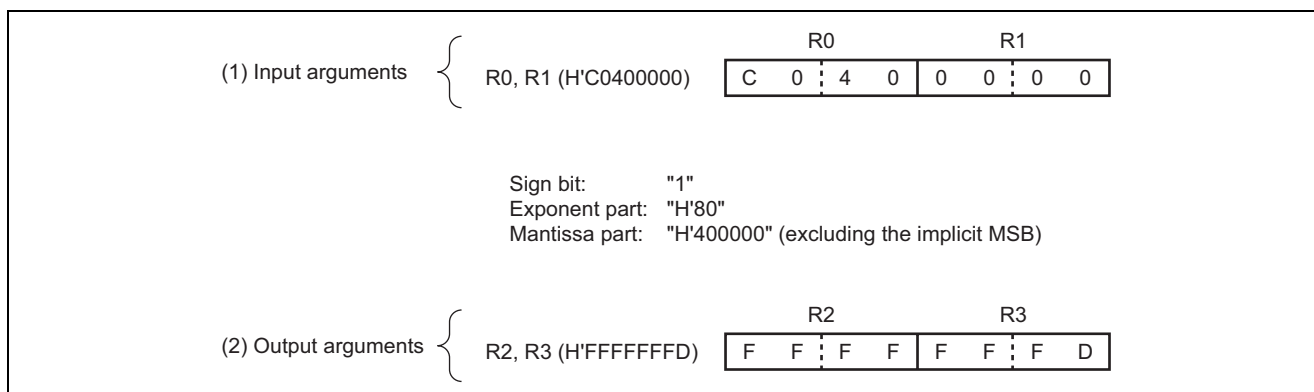

Figure 1 Example of Software FKTR Execution
The clock cycle count (108) in the specifications is for the example shown in figure 1.